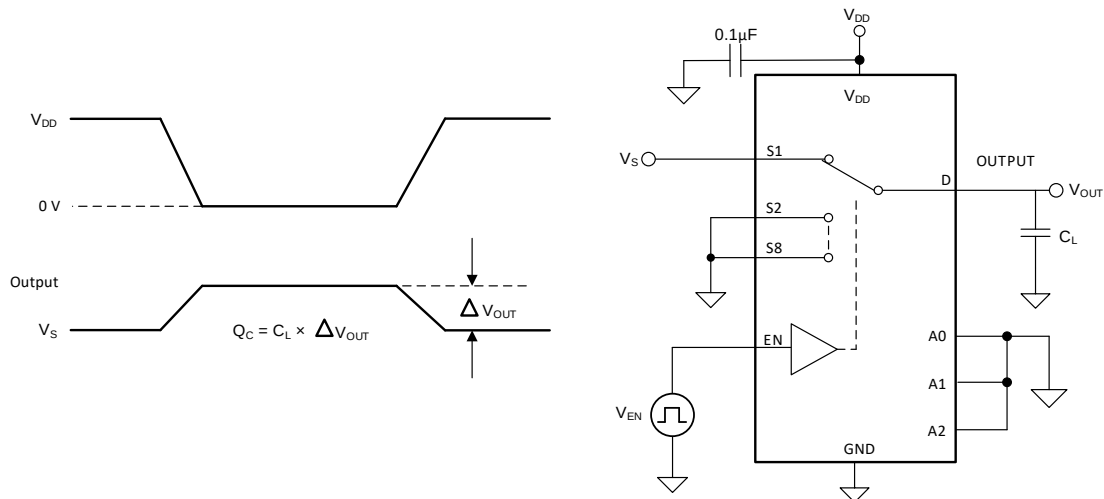

Figure 13. Charge-Injection Measurement Setup
The TMUX1208 and TMUX1209 have a transmission-gate topology. Any mismatch in capacitance between the NMOS and PMOS transistors results in a charge injected into the drain or source during the falling or rising edge of the gate signal. The amount of charge injected into the source or drain of the device is known as charge injection, and is denoted by the symbol Q_C . Figure 13 shows the setup used to measure charge injection from source (S_x) to drain (D).